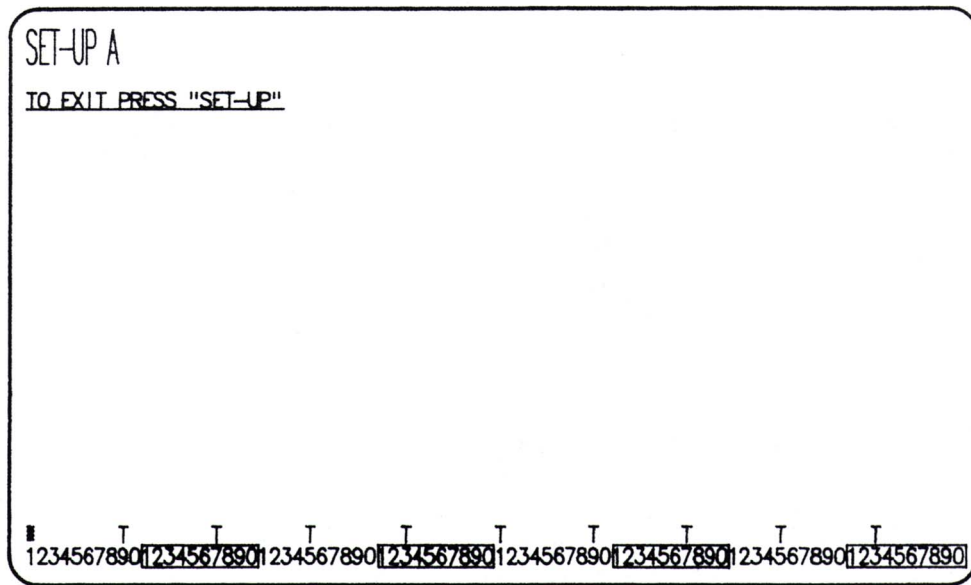

Figure 2-9
- 2) Strike the large key labeled SET-UP in the upper left portion of the keyboard. This will yield the display shown in Figure 2-9.